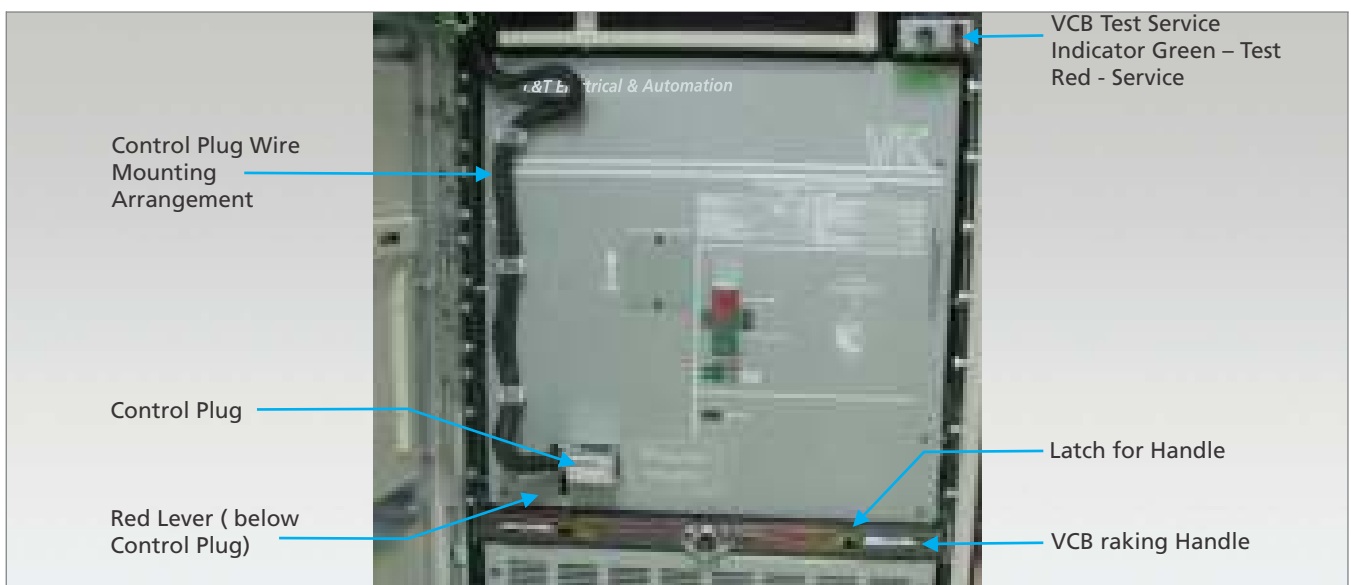

Figure 5.2 - Control Plug Arrangement
- Whenever Panels are taken for Maintenance activity, please keep the control plug wire as shown in Figure 5.2 so as to avoid any disturbance & damages to Control plug wire.